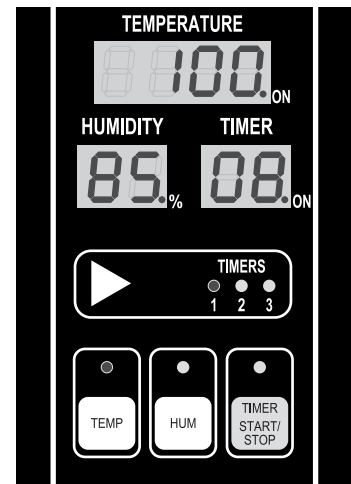

Fig. 3
3. If the unit is set to display the set temperature (Fig. 3), the button indicator LED will be illuminated. Pressing and holding the TEMP button will display the actual temperature.